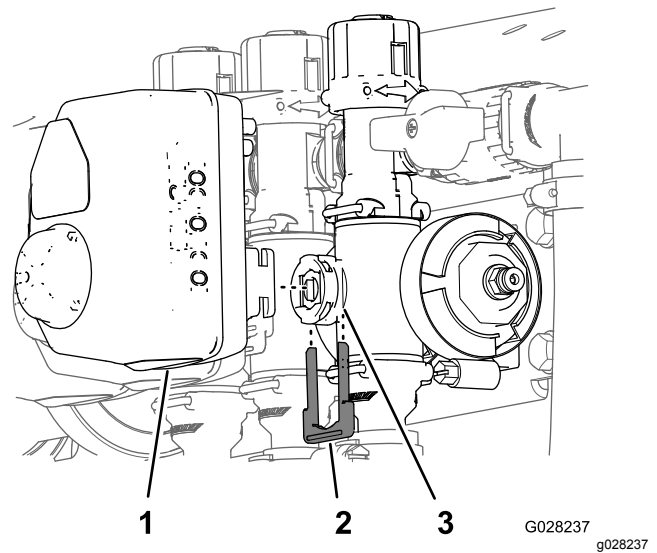

Figure 112
3. Remove the retainer that secures the a actuator to the manifold valve for the rate control, agitation, master section, or section valve (Figure 112).